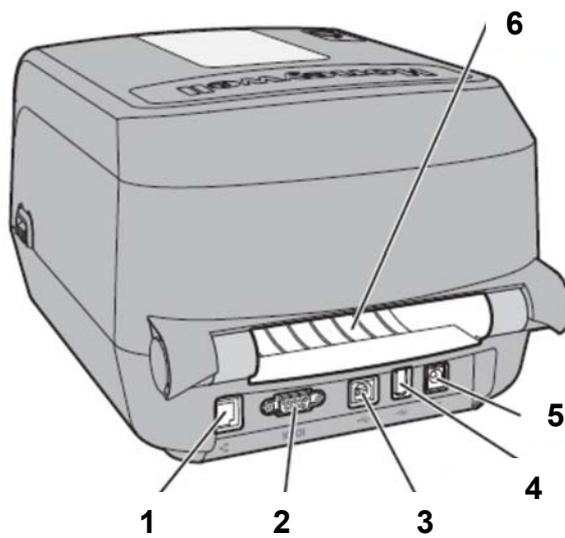

Figure 2: Rear panel
- Figure 2: Rear panel 2
Legend (Figure 2):